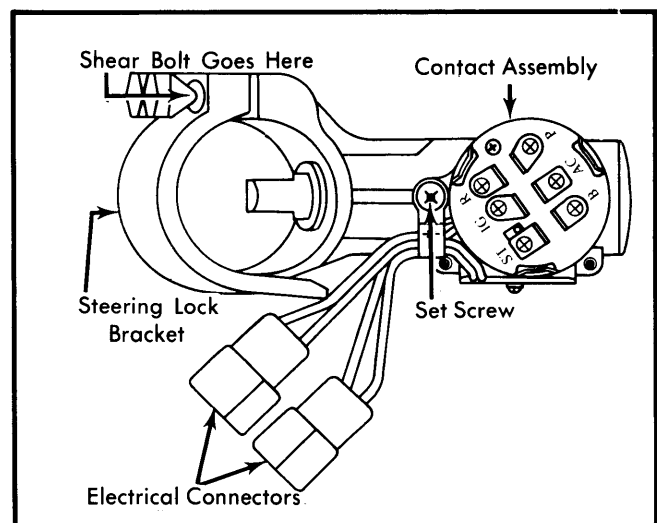

Fig. 2 Exploded View of Ignition Switch Assembly (Except B2000)
**Removal** — Remove steering wheel as previously outlined. Remove column shrouding. Remove combination switch. Disconnect electrical connector. Remove screw attaching switch contact housing to steering lock body and slide out contact housing. See Fig. 2.